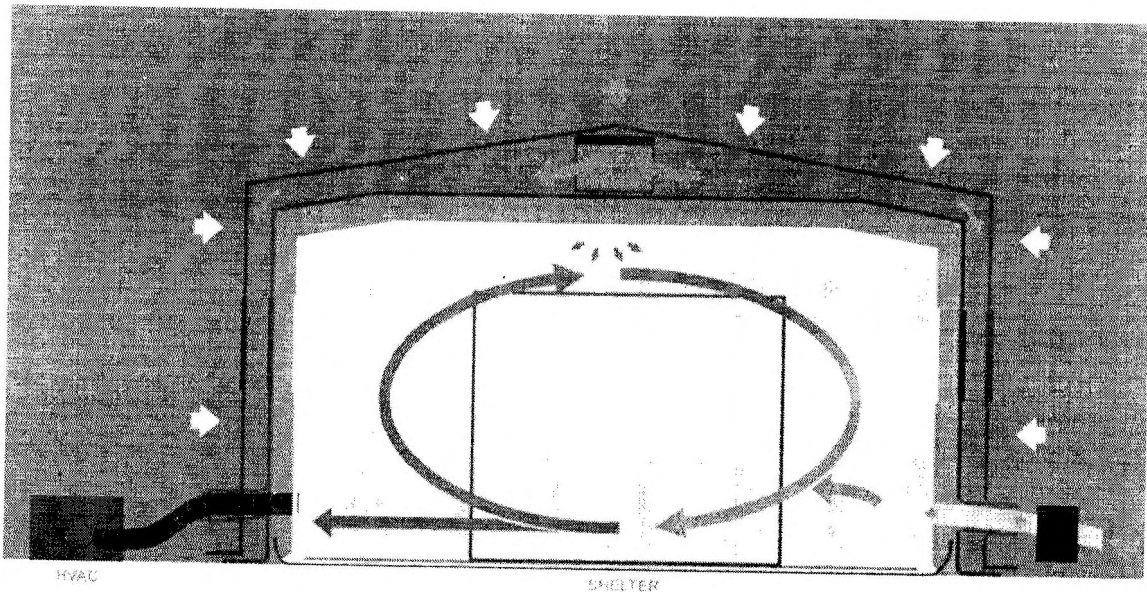

Figure 4: Closed down shelters
16. Fig 4 shows a shelter that is closed down and has the highest risk of condensation particularly if it has been occupied during the day and is closed up at night. To reduce this risk there are a number of mitigation strategies that can be employed, listed as follows: -